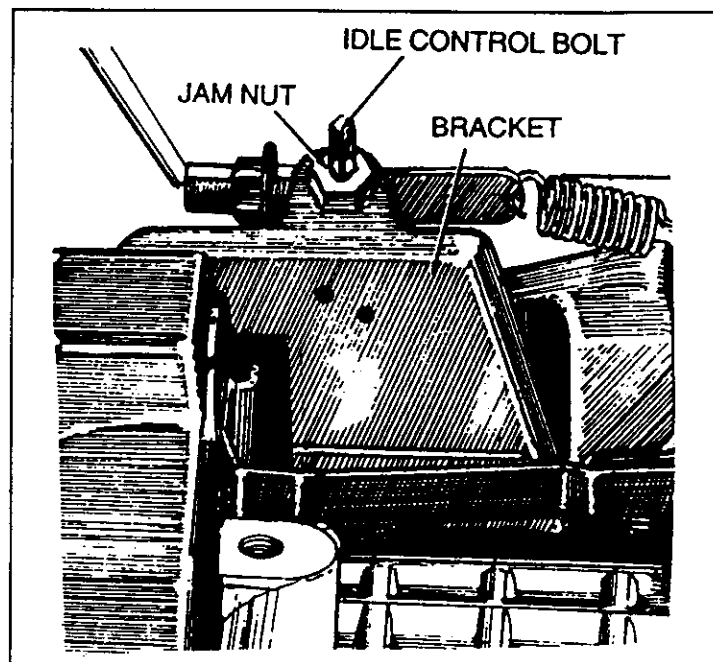

FIG. 9
- With the unit running and warmed up, turn the idle control bolt clockwise (faster speed), or counterclockwise (slower speed) until the engine speed is between 25 and 35 Hz. (1500 – 2100 rpm). See Fig. 9.